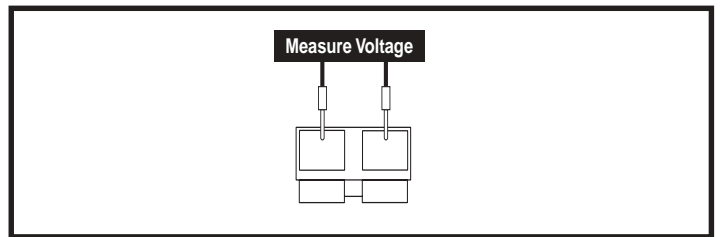
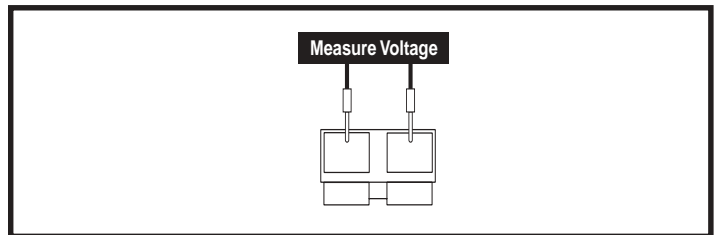
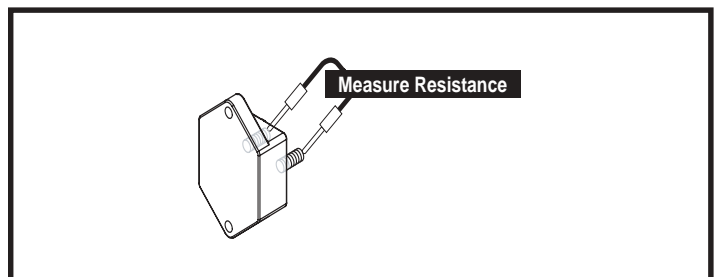

Figure 23. Connector 6a
Figure 25. Connector 7a
Figure 27. Circuit Breaker (10)
13. Measure voltage across pin 1 and pin 2 on connector 6a, then measure voltage across connectors 6b and 6c. **See figures 23 and 24.**
- *If your multimeter does not indicate the same voltage for both tests, then replace the front battery harness (6) and retest the system.*
14. Measure voltage across pin 1 and pin 2 on connector 7a, then measure voltage across connectors 7b and 7c. **See figures 25 and 26.**
- *If your multimeter does not indicate the same voltage for both tests, then replace the rear battery harness (7) and retest the system.*
15. Measure resistance across the two terminals of the circuit breaker (10). **See figure 27.**
- *If your multimeter indicates less than 1 ohm, then replace the battery cable (5) and retest the system.*
- *If your multimeter indicates greater than 1 ohm, then replace the circuit breaker (10) and retest the system.*